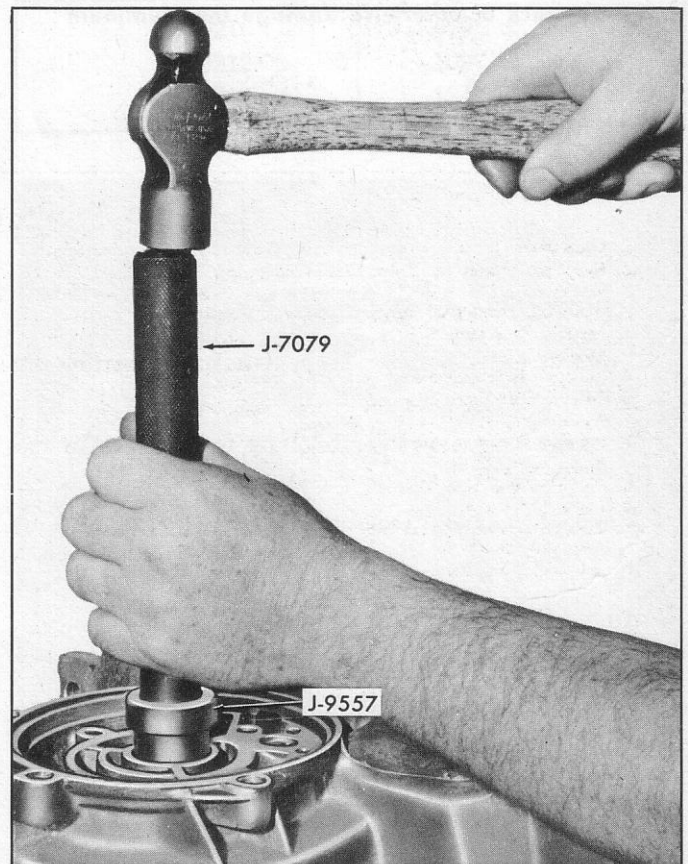

Fig. 35—Installing Case Rear Bushing
2. To install new bushing, drive or press bushing into place from rear of case using Tool J-9557 and handle J-7079 (fig. 35).